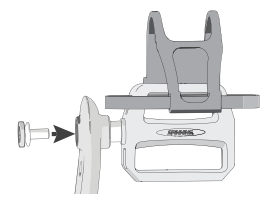

Figure 12
3. Secure the pedal using one bolt ④ (Figure 12) and torque to 33 ft-lb (45 N-m) with a hex key ⑫.